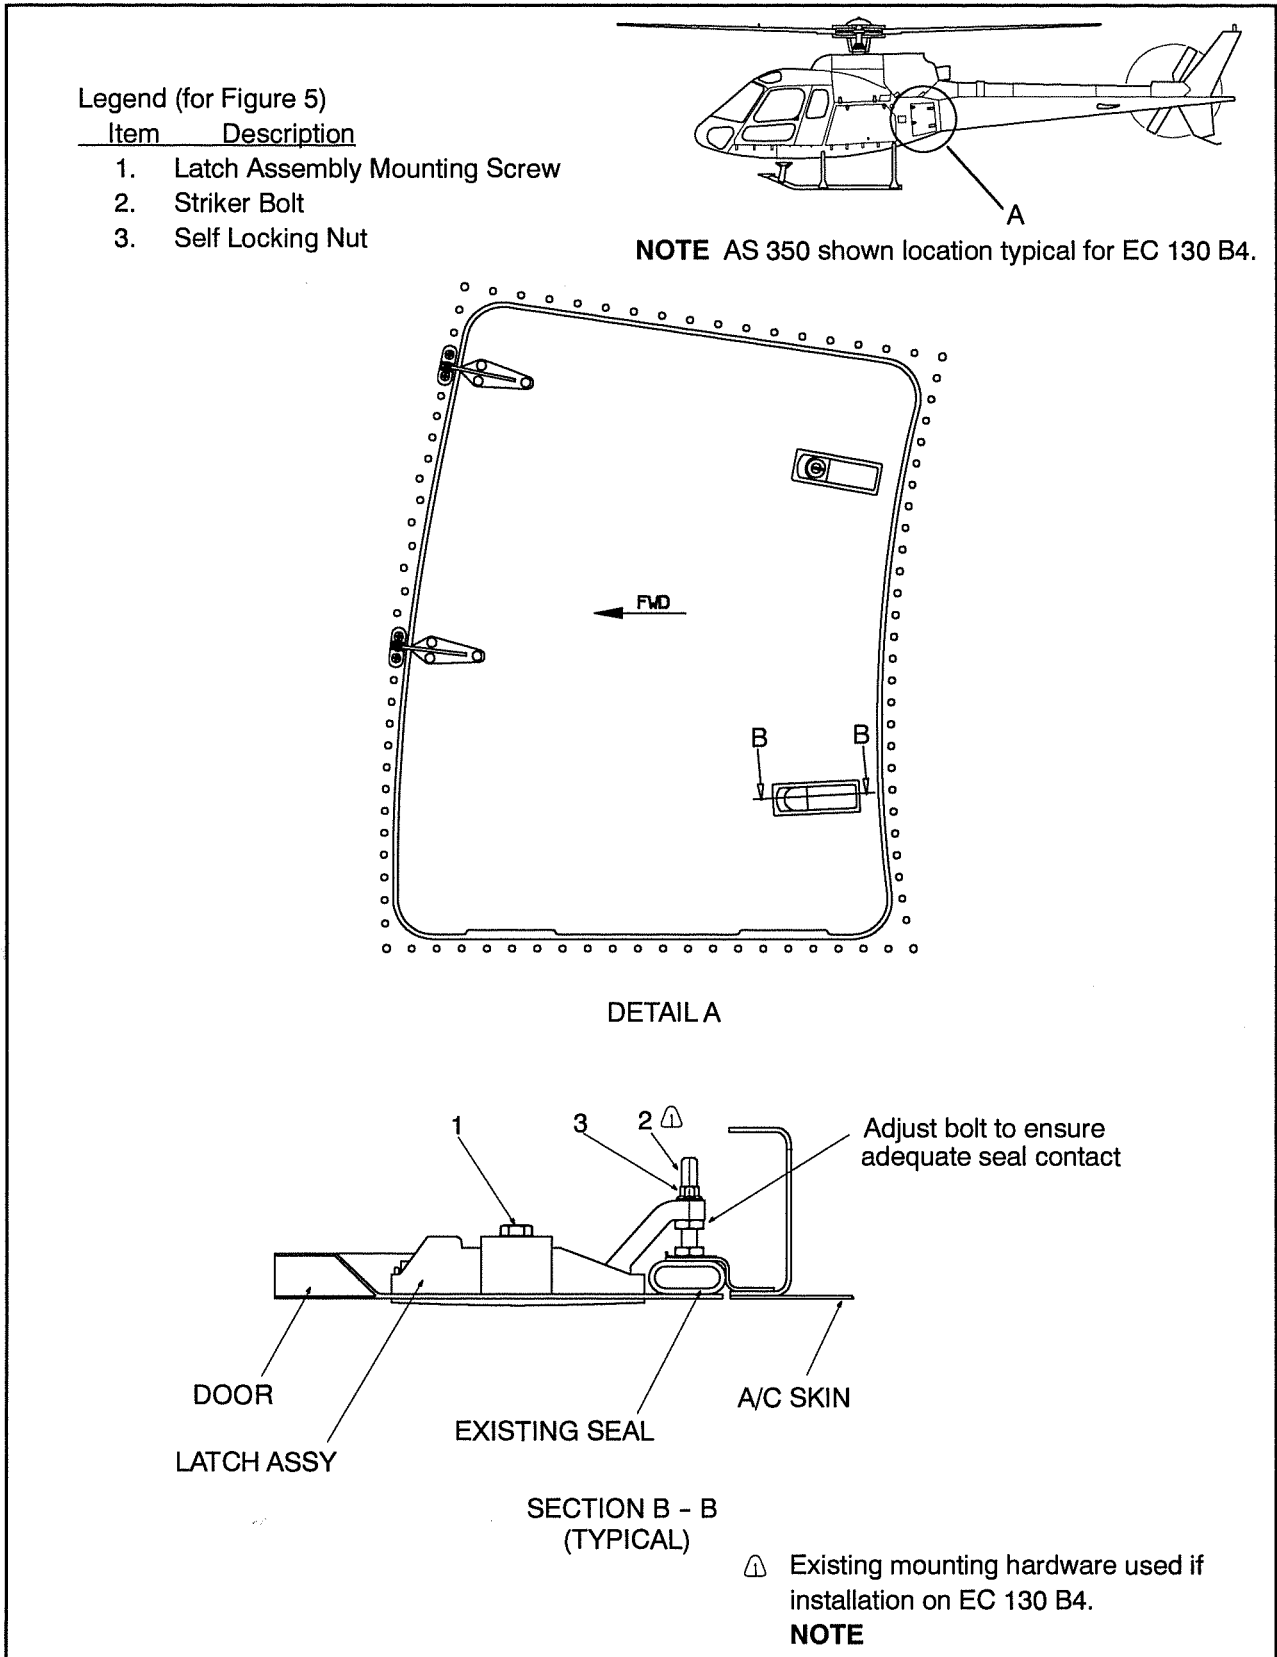

Figure 5 Door Latch Assembly (AS 350 / AS 355 and EC 130 B4)
- b) Remove latch assembly mounting screw (1) from each door latch assembly (3 and 4). Remove both door latch assemblies (3 and 4) from door. Refer to Figure 5.
- b) Secure using the latch assembly mounting screws (1) (2 places). Refer to Figure 5.
**NOTE** Apply thread locking compound (P/N Loctite 242) to latch assembly mounting screws (1) upon installation.